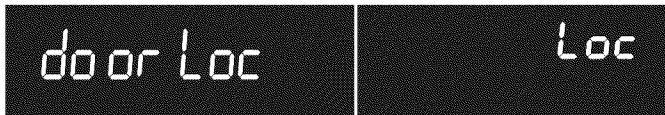

Figure 18: Display showing door locking (L) and in locked (R) position
2. Press and hold **Oven Lockout** for 3 seconds. **door Loc** will appear in the display (See Figure 18). The motor driven door latch mechanism will begin locking the oven door automatically. Do not open the oven door. Allow about 15 seconds for the oven door to completely lock. Once door is locked, **Loc** will appear in the display.